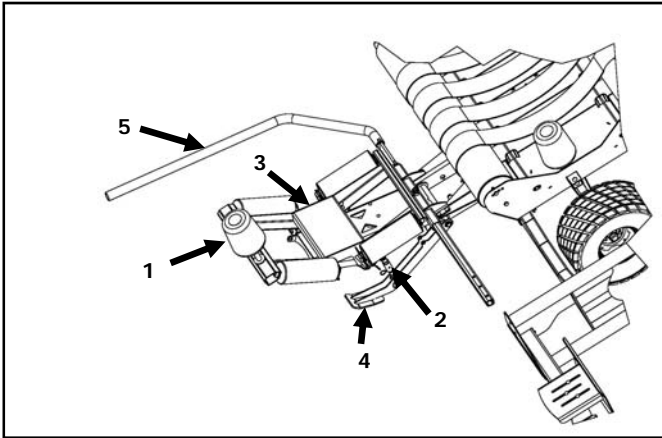

Figure 8.5 Bale unloading platform D3
For transport, it is necessary to manually retract the retaining bar (2) (Figure 8.5).